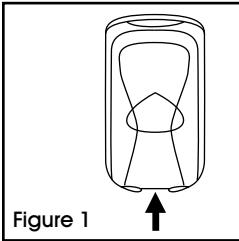

Figure 1
1. Install dispenser at least 6" above counter top. (See Figure 1)
1. Open dispenser by pushing release on bottom of dispenser. (See Figure 1)